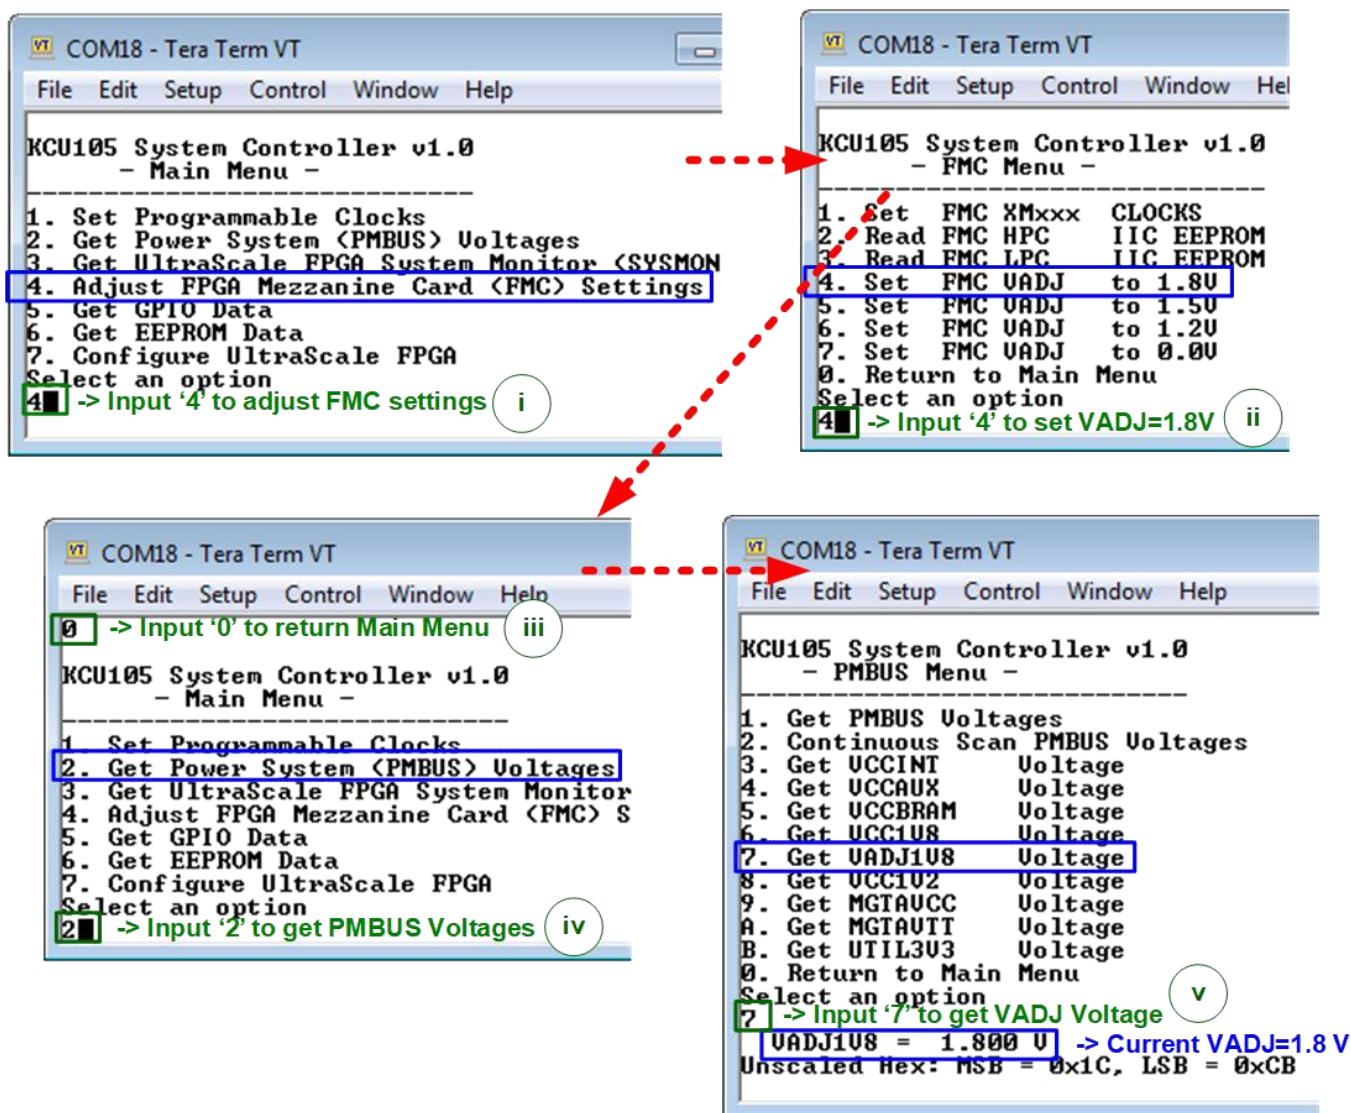

Figure 2-8 Setting VADJ on FMC for KCU105
6) For KCU105 board by AB17, open Serial console to connect with Enhanced COM port (Baud rate=115,200 Data=8 bit Non-Parity Stop=1). The console shows System Controller menu, as shown in Figure 2-8. To set VADJ of FMC to 1.8V, the following step is recommended.